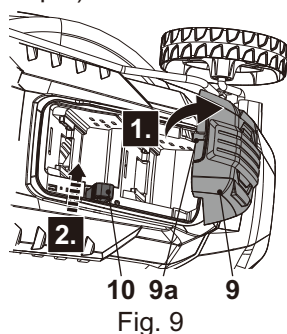

Fig. 9
- Pull open the battery cover (9) by disengaging the latch (9a) (Fig. 9, step 1).
- Unplug the safety key (10) and keep it hanging by its string (Fig. 9, step 2).